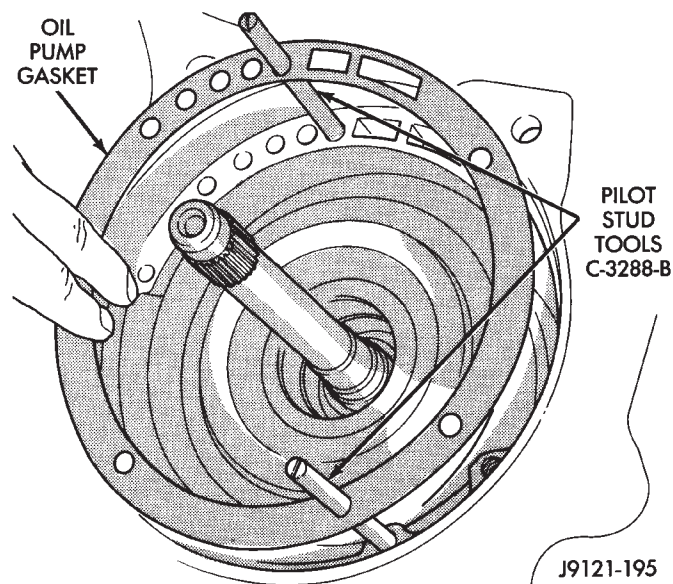

Fig. 108 Installing Pilot Studs And Oil Pump Gasket
(38) Thread two Pilot Stud Tools C-3288-B into bolt holes in oil pump flange (Fig. 108).
(39) Align and install oil pump gasket (Fig. 108).